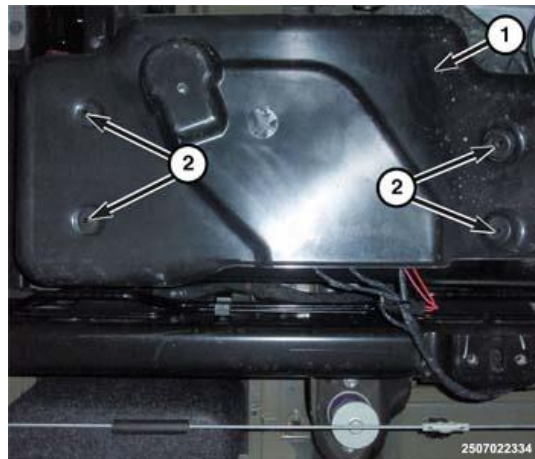

Figure 5 – DEF Tank Shield
71. Install the module mounting bracket (2). Tighten the nuts (1) to 11 N·m (8 ft. lbs.) (Figure 5).
14. Remove the four nuts (2) retaining the DEF tank shield (1) (Figure 5).